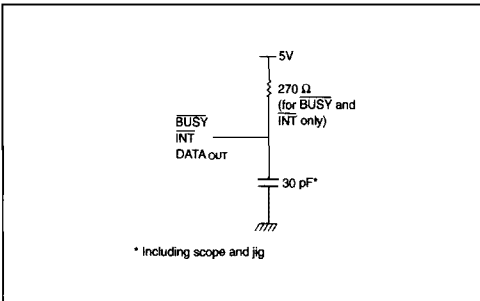

Figure 1 : Output Load.
Output Load : see figures 1, 2
- Notes : 20. Transition is measured ± 500 mV from low or high impedance voltage with load (figures 1 and 2).
Notes : 30. Transition is measured \pm 500 mV from low or high impedance voltage with load (figures 1 and 2).